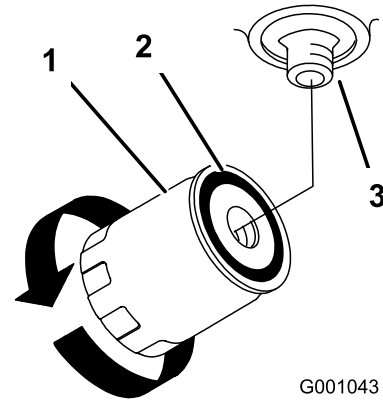

Figure 77
3. Apply a thin coat hydro fluid to the rubber gasket on the replacement filter (Figure 77).
7. Fill the hydraulic tank with hydraulic fluid until the fluid overflows the filter and then turn the oil filter clockwise until the rubber gasket contacts the filter adapter, then tighten the filter an additional 1/2 turn (Figure 77).